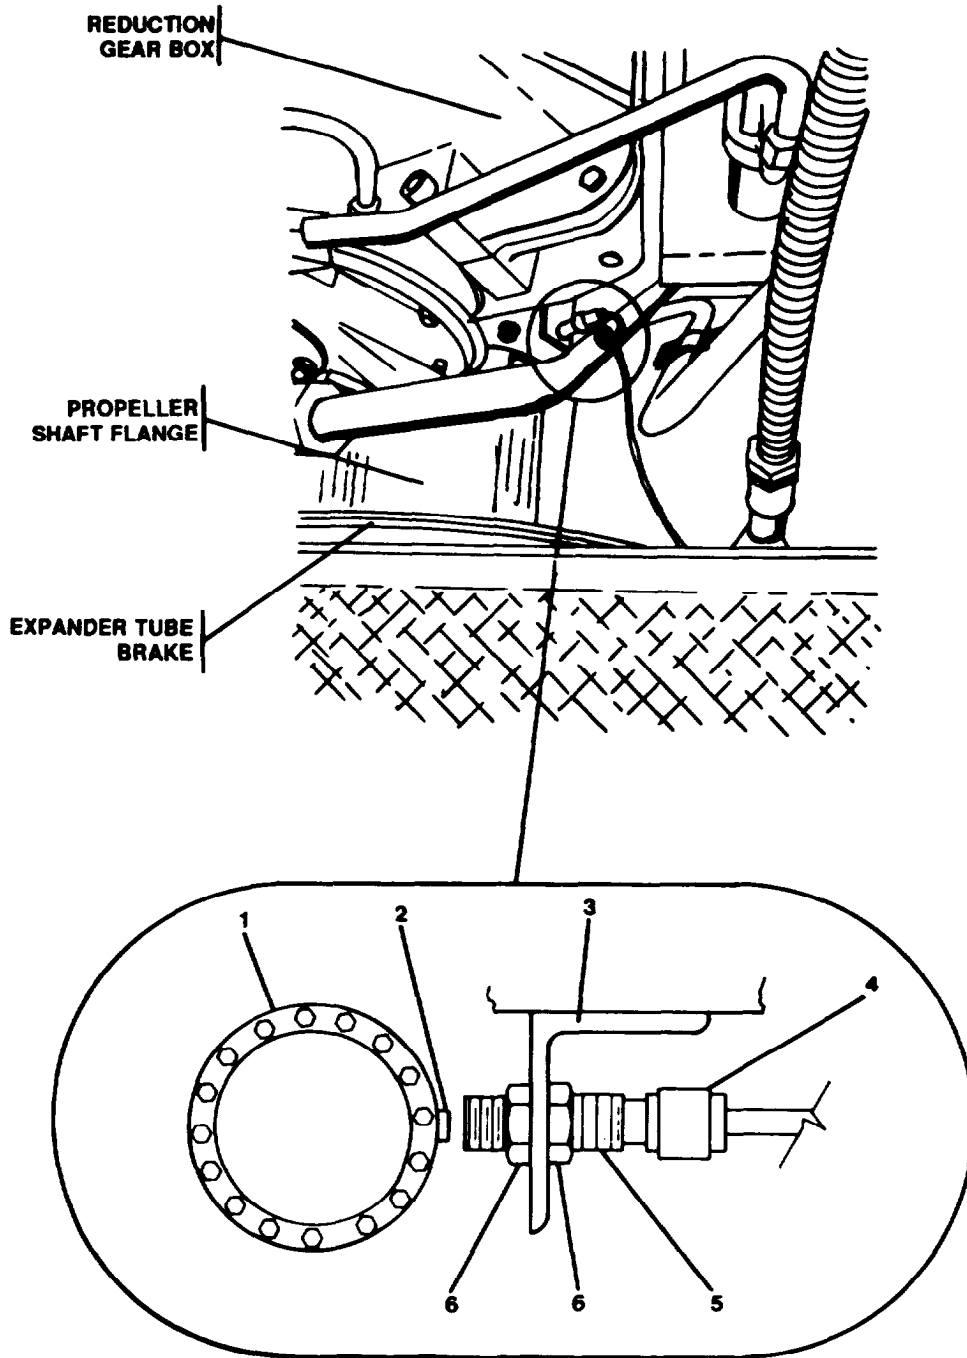

FIGURE 2-229. Electrical Self Generatine (Shaft) Tachometey.
- d. Visually inspect the electrical self generating shaft tachometers (FIGURE 2-229) as follows:
- (1) Check pickup sensing lug (2) on port and starboard propeller shaft flange (1) for looseness. Tighten screw set inside of pickup sensing lug (2) with screwdriver if loose.
- (2) Check pickup mounting brackets (3) for looseness. Tighten pickup mounting bracket screws with screwdriver if loose.
- (3) Check motional pickup transducers (5) for security in pickup mounting brackets (3). Tighten jam nuts (6) if loose.
- (4) Check connector assembly with cable (4) for tightness. Hand tighten connector assembly with cable (4) to motional pickup transducer (5).
- (5) Open starting air and control air valves for main propulsion engines (port and starboard). Remove "Out of Service, Do Not Operate" tags.